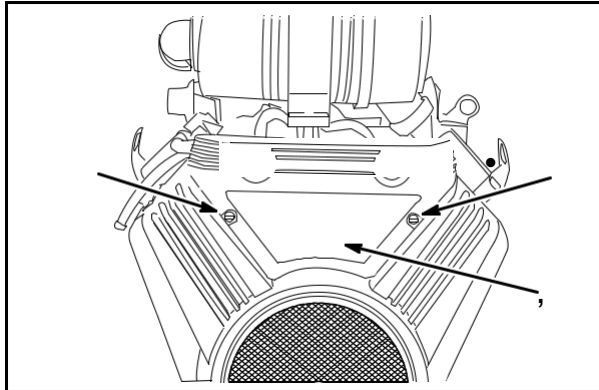

Fig. 26
Use a coin or screwdriver to twist the Easy Clean Accesst panel fasteners (1), **Fig. 26** COUNTERCLOCKWISE until a **CLICK** is heard (approx. 3/4 turn).